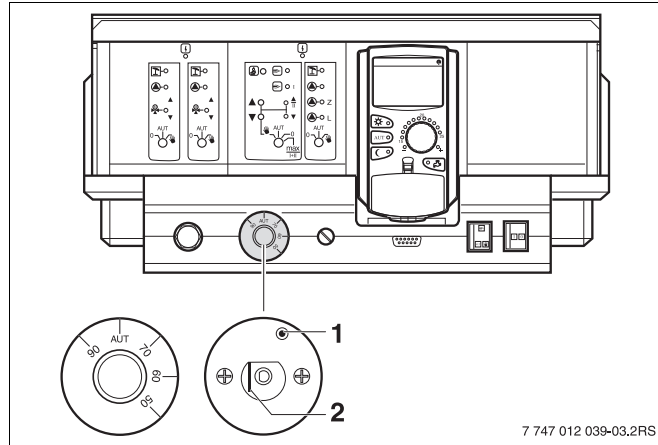

Fig. 13 Triggering the high limit safety cut-out
- Pull off the thermostat selector (TR).
- Push lever or key (→ Fig. 13, page 26) (subject to controller type) back with a screwdriver, and hold until the high limit safety cut-out has responded.